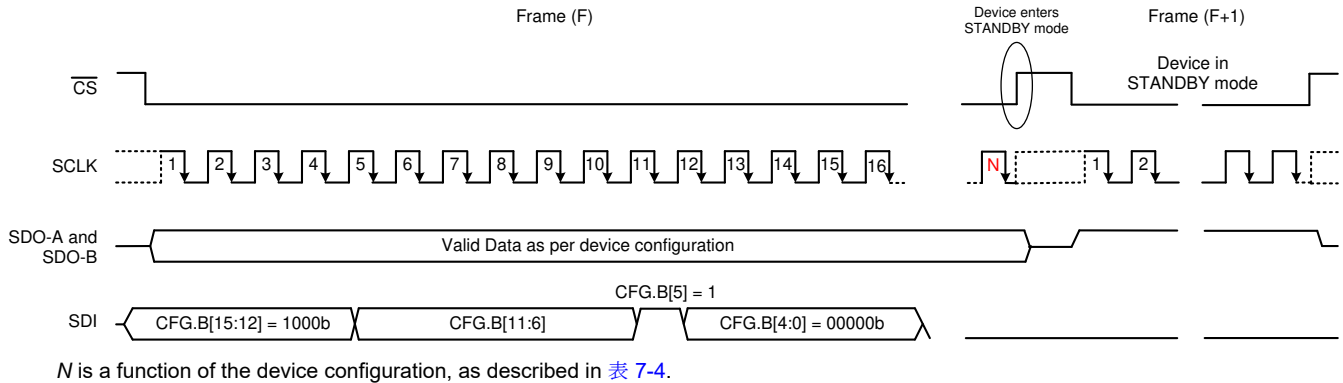

Figure 7-8. Enter STANDBY Mode
As shown in Figure 7-8, a valid write operation in frame (F) programs the configuration register with B5 set to 1 (CFR.B5 = 1) and places the device into a STANDBY mode of operation on the following $\overline{CS}$ rising edge. While in STANDBY mode, SDO_A and SDO_B output all 1s when $\overline{CS}$ is low and remain in 3-state when $\overline{CS}$ is high.